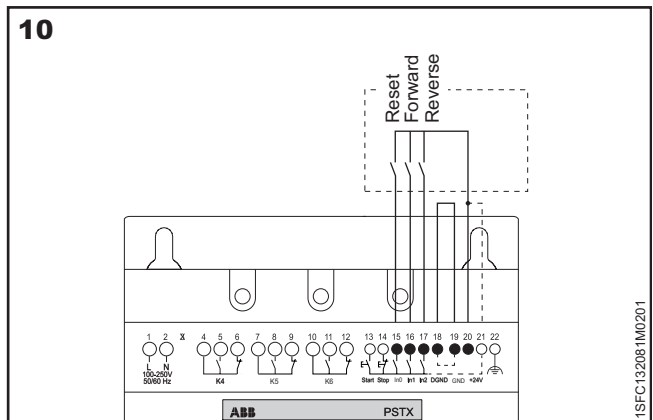

Figure 10: Programmable inputs with internal source used. Typical for push buttons.
Connect the cables according to **Figure 10** to use the internal control voltage.
- Connect the blue reset push button as Reset in **Figure 10**
- Connect the black pump cleaning toggle right direction as Forward in **Figure 10**
- Connect the black pump cleaning toggle left direction as Reverse in **Figure 10**